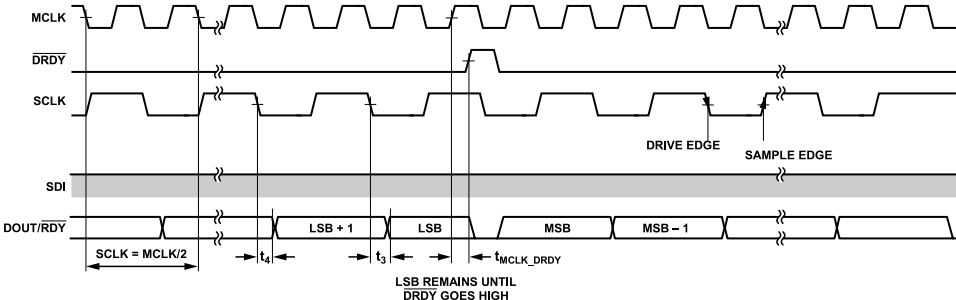

Figure 98. Recommended Interface for Reading Conversions, SPI Control, Continuous Readback Mode
The AD7768-1 interface is flexible to allow the many modes of operation and for data output formats to work across different DSPs and microcontroller units (MCUs). To achieve maximum performance, the recommended interface configuration for reading conversion results is shown in Figure 98. This recommended implementation uses a synchronous SCLK to MCLK relationship.
Figure 98 shows how the recommended interface operates. The data read back spans the entire length of the \overline{DRDY} period and the LSB remains until \overline{DRDY} goes high for the next conversion.
2. Generate SCLK based on the \overline{DRDY} or \overline{RDY} timing. SCLK is high when the \overline{DRDY} signal goes high and transitions on the MCLK falling edges (see Figure 98) to ensure that the LSB can be read correctly as the DOUT/ \overline{RDY} output is reset on the \overline{DRDY} rising edge. However, SCLK rising occurs before this transition.
Because the full ODR period is for clocking data, the \overline{RDY} signal no longer flags after each LSB outputs. This signal only flags if the AD7768-1 is in continuous readback mode, or if the AD7768-1 does not count 32 SCLKs within $1 \times t_{MCLK}$ before \overline{DRDY} , as is shown in Figure 98.